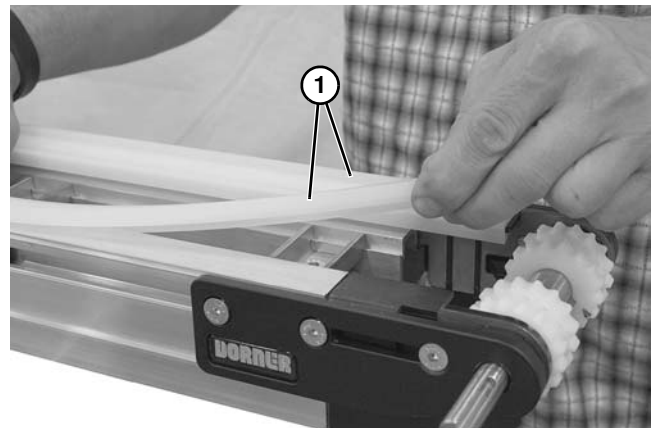

Figure 66
2. Remove upper wear strips (Figure 66, item 1).